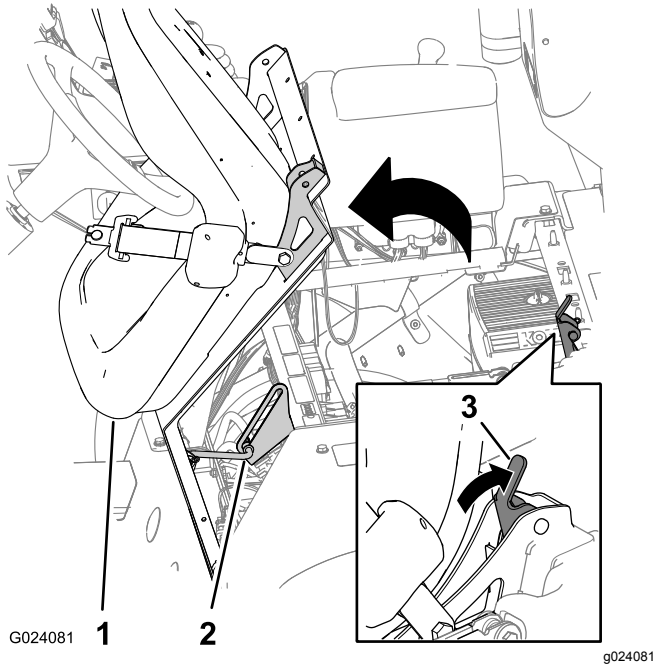

Figure 3
2. Unlatch the seat by pushing the seat-latch handle rearward (Figure 3).
3. Rotate the seat and seat plate forward until the end of the prop rod, at the prop-rod bracket, is at the bottom of the slot in the bracket (Figure 3).